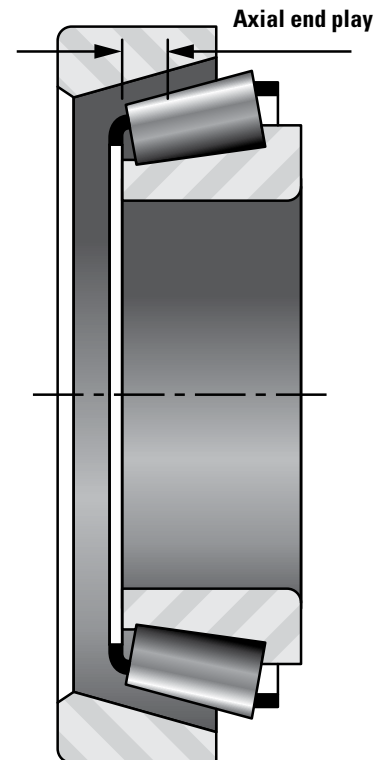

Fig. 11. Axial force is applied in both directions while rotating the shaft.
- End play – An axial clearance between rollers and races producing a measurable axial shaft movement when a small axial force is applied - first in one direction, then in the other, while oscillating or rotating the shaft (Fig. 11).